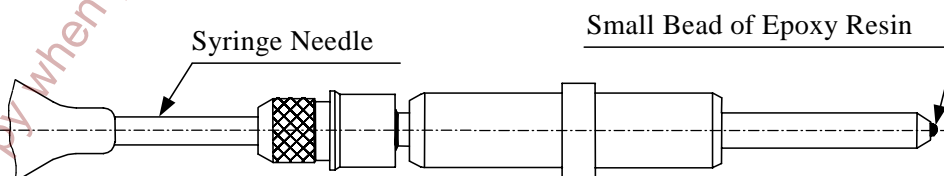

Figure 3
- 2.5.2 Carefully place the syringe needle into the ferrule bucket and rear of the contact as far as the needle will go. Observing the mating face of the ceramic contact, apply gentle pressure to the syringe until a small amount of epoxy resin shows on the contact face. Refer to Figure 3.